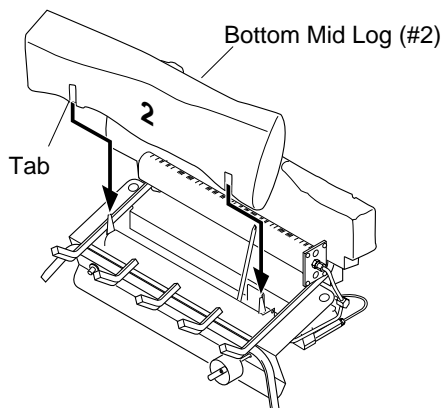

Figure 36 - Installing Bottom Mid Log
2. Slide bottom mid log (#2) into place in behind front burner. Make sure tabs at bottom of log are behind front burner (see Figure 36).